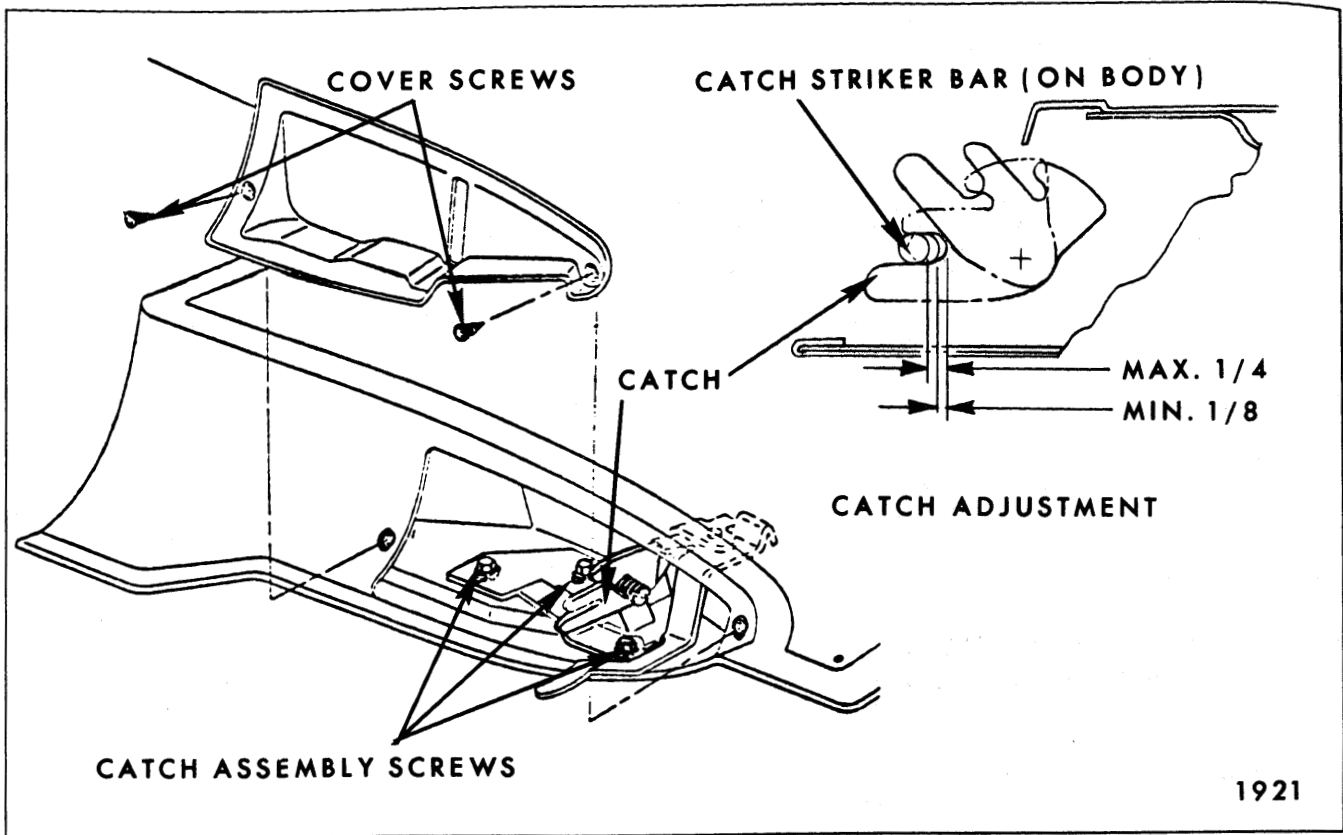

Fig. 10-60—Folding Seat Back Catch - All Pontiac "B" Styles
2. Remove catch cover screws and remove cover (Fig. 10-60).
3. Remove three screws securing catch to seat back frame and remove catch assembly from seat back (Fig. 10-60).
IMPORTANT: To assure proper operation of the folding second seat back the catch assembly should be installed and, where necessary, adjusted for a minimum gap of 1/64 inch to a maximum gap of 3/16 inch between bottom of slot in catch and catch striker when seat back is in full "up" position (Fig. 10-60).